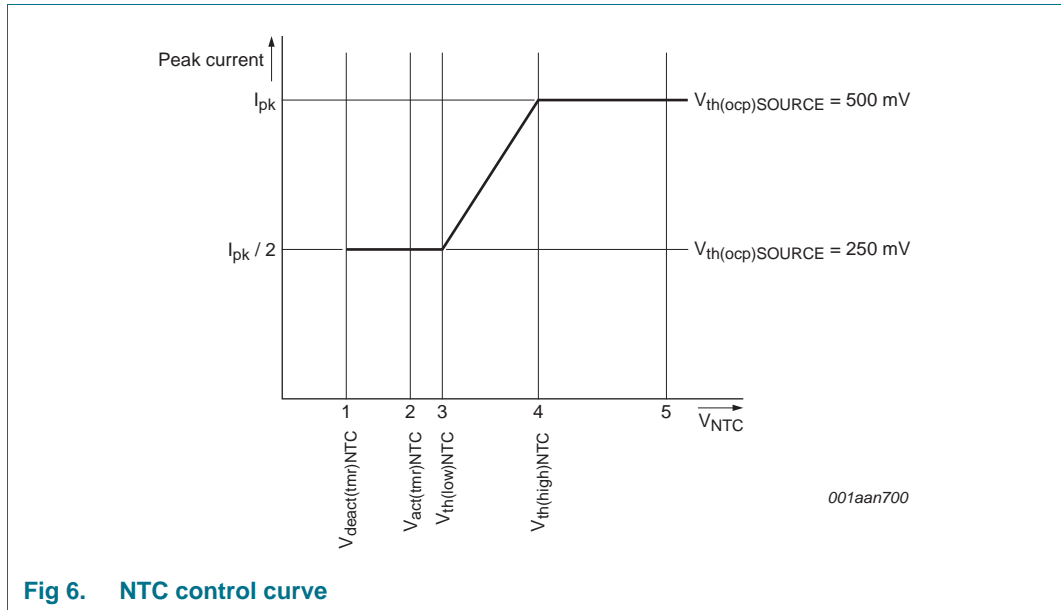

Fig 6. NTC control curve
The NTC pin can be used as a control method for LED thermal protection. Alternatively, the pin can be used as an input to disable/enable light output using a digital signal (PWM dimming). The pin has an internal current source that generates the current of  $I_{\text{offset}(NTC)}$ . An NTC resistor to monitor the LED temperature can be directly connected to the NTC pin. Depending on the resistance value and the corresponding voltage on the NTC pin, the converter reacts as shown in Figure 6.
When the voltage on the NTC pin exceeds  $V_{th(high)NTC}$  (see Figure 6 (4)), the converter delivers nominal output current. When the voltage is lower than this level, the peak current is gradually reduced until  $V_{th(low)NTC}$  is reached (see Figure 6 (3)). The peak current is now half the peak current of nominal operation. When  $V_{act(tmr)NTC}$  is passed (see Figure 6 (2)) a timer starts to run to distinguish between the following situations:
- If the low-level  $V_{deact(tmr)NTC}$  is not reached within time  $t_{to(deact)NTC}$  (see Figure 6 (1)) LED overtemperature is detected. The IC stops switching and attempts to restart from the HV pin voltage. The converter restarts from an NTC protection shutdown when the voltage on the NTC pin exceeds  $V_{th(high)NTC}$  (see Figure 6 (4)). It is assumed that the reduction in peak current does not result in a lower NTC temperature and LED OTP is activated.
- If the low-level  $V_{deact(tmr)NTC}$  is reached within the time  $t_{to(deact)NTC}$  (see Figure 6 (1)) it is assumed that the pin is pulled down externally. The restart function is not triggered. Instead, the output current is reduced to zero. PWM dimming can be implemented this way. The output current rises again when the voltage is higher than  $V_{th(low)NTC}$ .
The NTC pin can be used to make a soft start function. During switch-on, the level on the NTC pin is low. By connecting a capacitor (in parallel with the NTC resistor), a time constant can be defined. The time constant causes the level on the NTC pin to increase slowly. When passing level  $V_{th(low)NTC}$  (see Figure 6 (3)), the convertor starts with half of the maximum current. The output current slowly increases to maximum when  $V_{th(high)NTC}$  (see Figure 6 (4)) is reached.